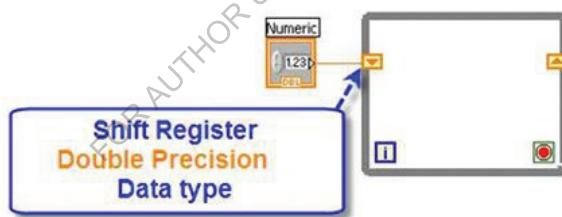

Figure 2.133: Double Precision Data Type Connected to Shift Register
**Shift Register** can transfer any type of data **number**, **Boolean**, **text** or **array**, but the data type must be connected to and one. In figure 2.133 that shown the double precision data type connected to shift register.